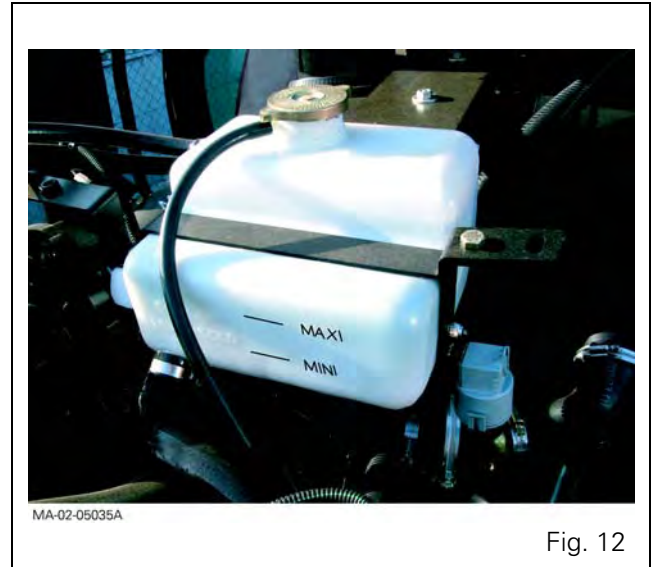

Fig. 12
- **Topping up** of coolant, to the maximum level marked on the expansion tank (Fig. 12).